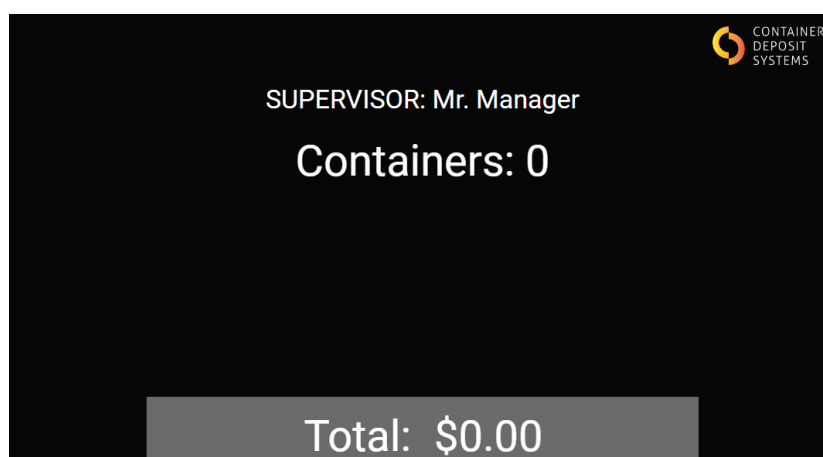

Figure 14. Batch
- The customer places only eligible containers on the corresponding belts with the correct spacing. Containers will be counted on the screen as seen in Figure 14. Batch. For more information regarding the ART capabilities, refer to section 1.6. ART Technology Capabilities